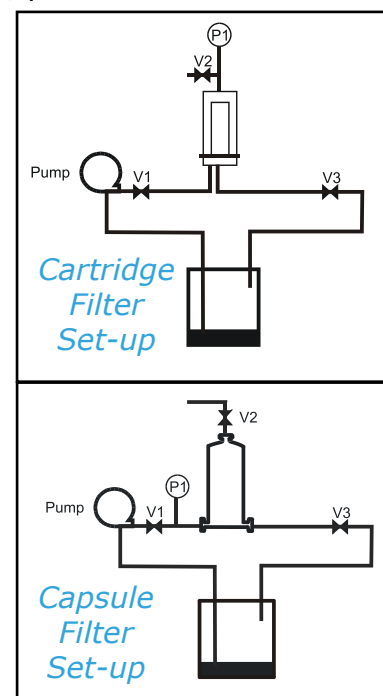

Figure 2: Typical set-up for wetting with a peristaltic pump
1. Set up the filtration system to meet the maximum pressure rating for the tubing as shown in Figure 2 and close all valves (V1, V2 and V3).
1. Set up installation as shown in Figure 2 and close all valves (V1, V2 and V3).